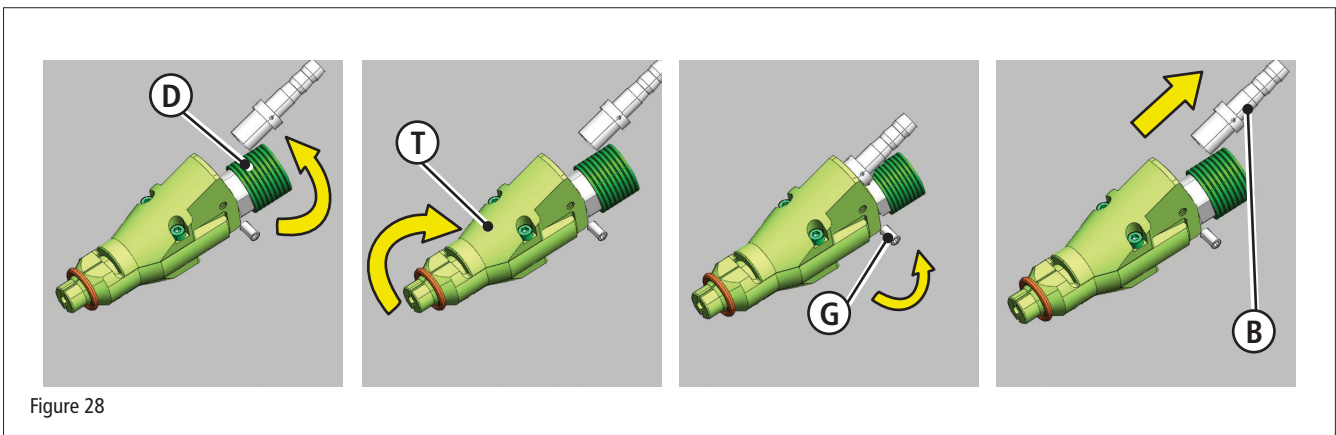

Figure 28
See Figure 28
- Follow the procedure in Figure 28 (pg 38) to remove the head